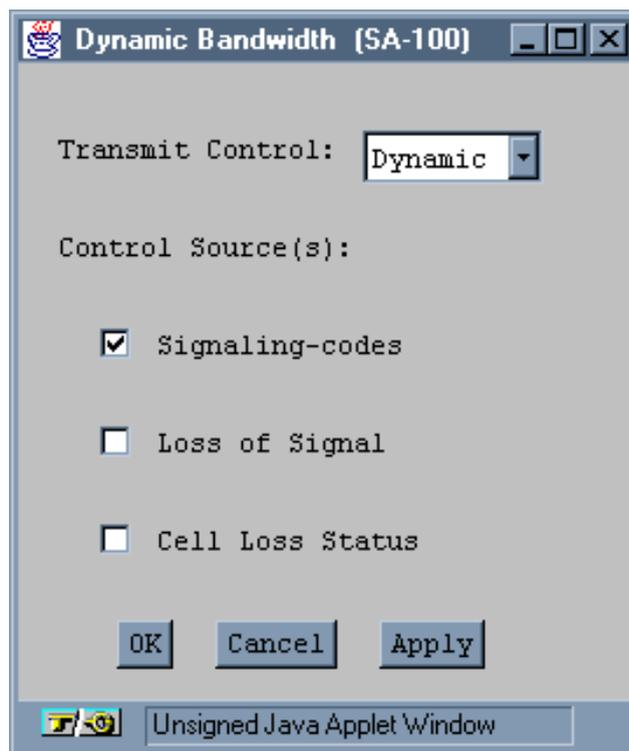

Figure 5-25. Dynamic Bandwidth Window (Structured DS1/E1 CES-IWF only)
1. Select the Dynamic Bandwidth button from the Add Structured DS1/E1 CES-IWF window. The Dynamic Bandwidth window appears (**Figure 5-25**).